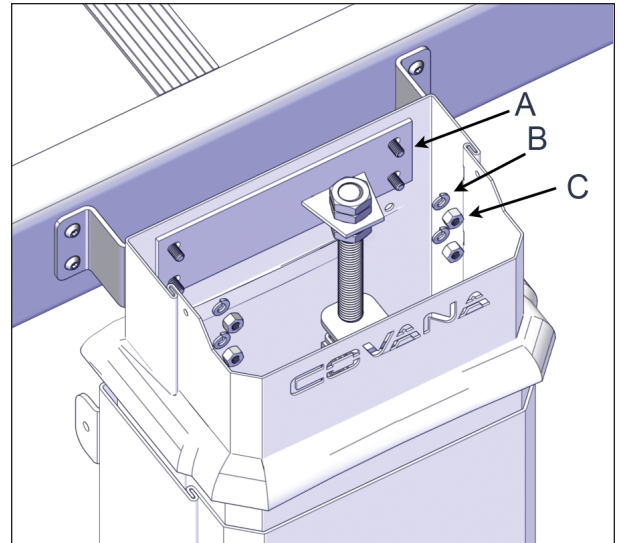

FIGURE 108: JACK ADAPTER SCREW REMOVAL
3. Remove the 1/4-20 x 3/4" carriage bolts (4) of the jack adapter, from each post using a 7/16" (11 mm) socket wrench, see Figure 108.